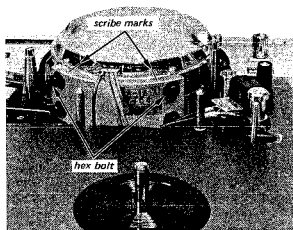

Fig. 4-1. Removal of upper drum
3. Put a reference mark on the upper drum using a scriber and straight edge as shown in Fig. 4-1.
4. Remove the two upper  $5 \times 20$  hex-head bolts as shown in Fig. 4-1, and washers with a 5 mm Allen wrench. Hold the upper drum with one hand so that it does not fall as you withdraw the two screws.